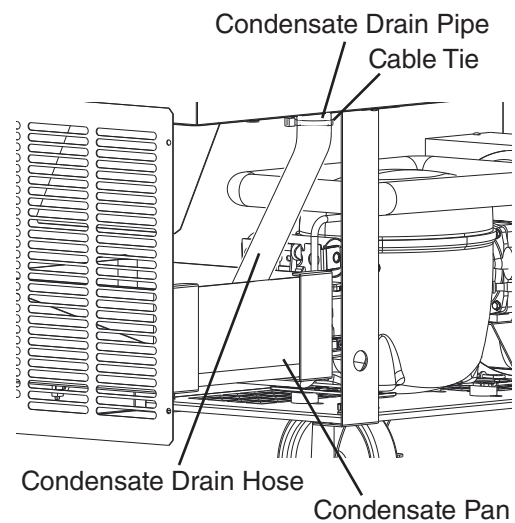

Fig. 41
- 5) Remove the nylon tie and condensate drain hose. See Fig. 41. **NOTICE! Before removing the condensate drain hose, place a pan underneath the condensate drain pipe to catch any water.**